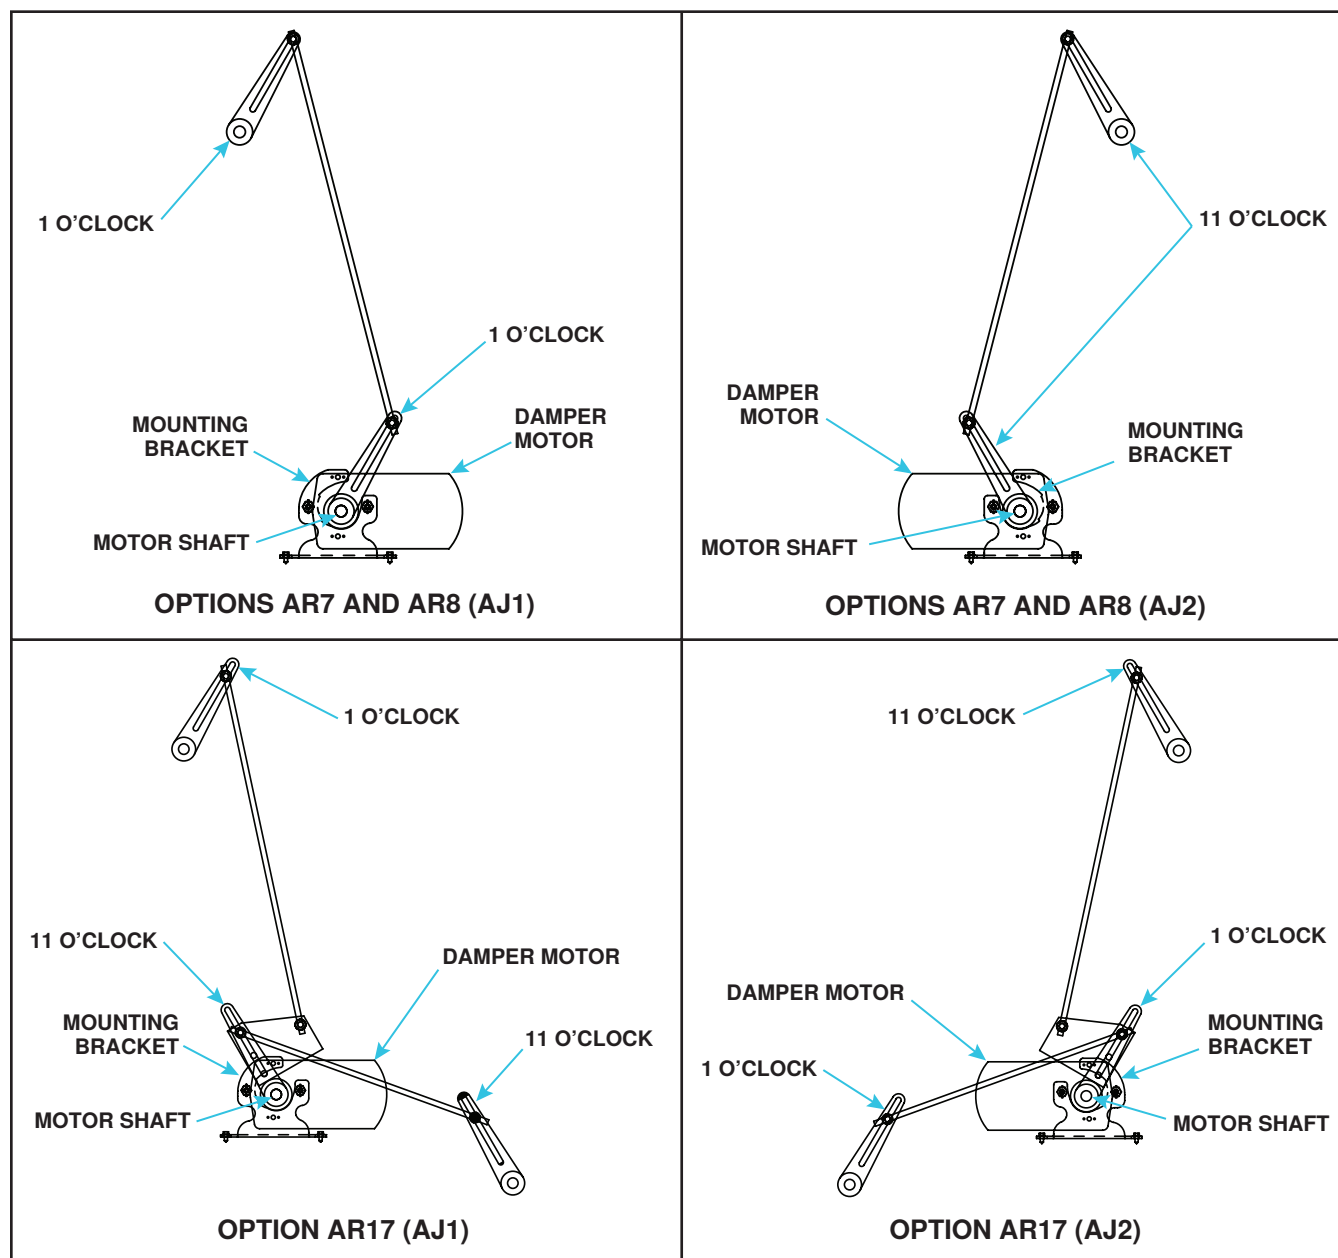

Figure 6. Damper Linkage for All Models Except CAUA (Outside Air Closed)
- b. For all models **except** CAUA, insert shaft through damper motor on side of motor marked B, secure shaft with coupler, and reconnect linkage to shaft (see Figure 6).
NOTE: The damper motor, motor shaft, and mounting bracket shown in Figure 6 are from the replacement kit. Other components shown are existing components on the unit.